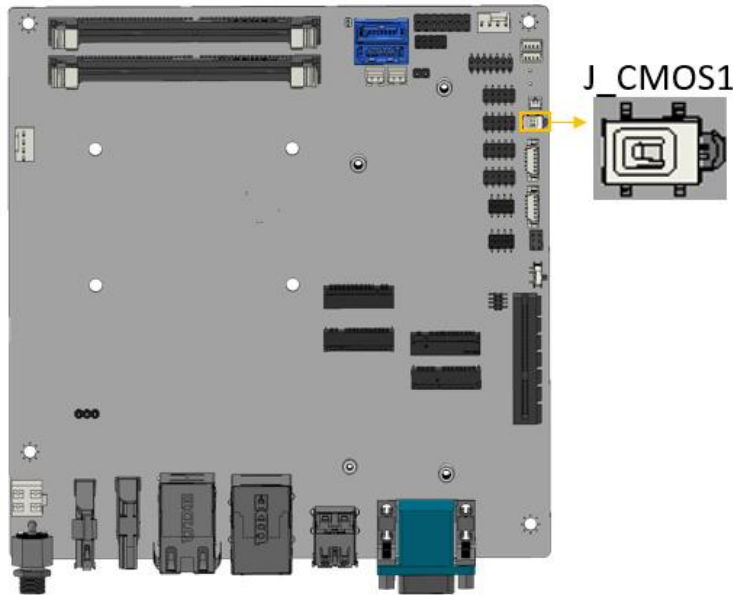

Figure 3-2: Clear CMOS Location
- CN Location:** See **Figure 3-2**